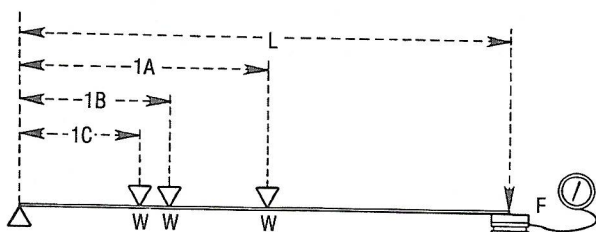

Figure 2.5. Load Cell/Lever Application
When an A Compression System is to be used with a lever (i. e., specified as 3:1, 2:1 or other lever ratio), the lever length and position of the weight must be precisely measured to maintain accuracy. If, for example, a 2:1 ratio system is desired the weight must be applied to the lever at the midpoint between the load cell and the lever pivot point (fulcrum). Any deviation from this arrangement will result in faulty weight indication as illustrated in Figure 2.5.
Figure 2.5 illustrates a 2:1 ratio lever arrangement; note that while the load cell receives half of the applied weight, the indicator shows all of it. Changing the position of the weight along the lever will change the indication; closer to the load cell will increase the error in a plus direction (reads fast) while further from the load cell will increase the error in a minus direction (reads slow). For final span adjustment, change the length of the lever slightly by moving the load cell closer to, or further from, the pivot point. When the span has been adjusted, bolt the lever to the load cell to prevent accidental shifting. Requirements for a successful lever installation include:
- a. Lever secured to pivot point (free to rotate vertically) and load cell to prevent accidental shifting. Distance (L, figure 2.5) to be precisely measured.